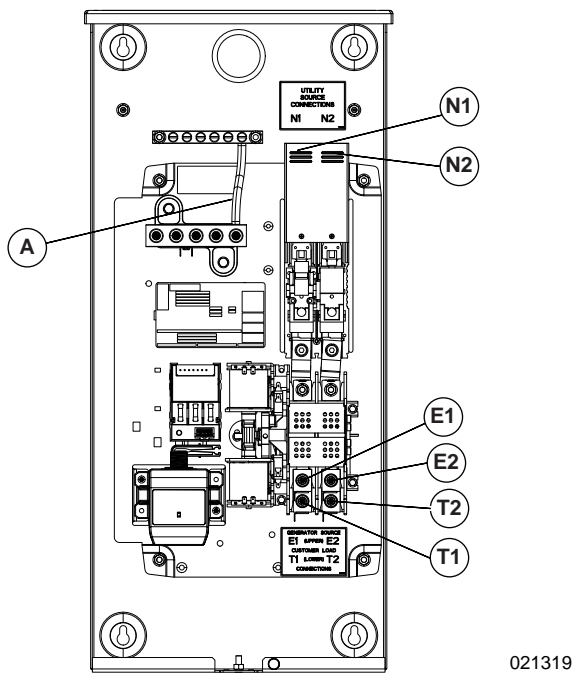

Figure 3-4. Wiring Connections (Service Entrance Rated Models)
2. See Figure 3-4. Connect utility neutral and ground to Neutral and Ground terminals. Neutral and Ground terminals are bonded to each other with a jumper wire (A).